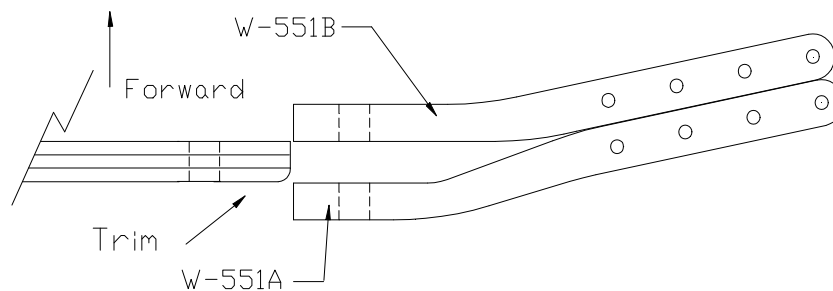

Fig. 14.1.3
- 6) Bolt a W0551A and a W0551B Strut Fitting (one on each side) to the Wing Strut Attach Brackets (W0505, W0506, and W0507). Figure 14.1.3.